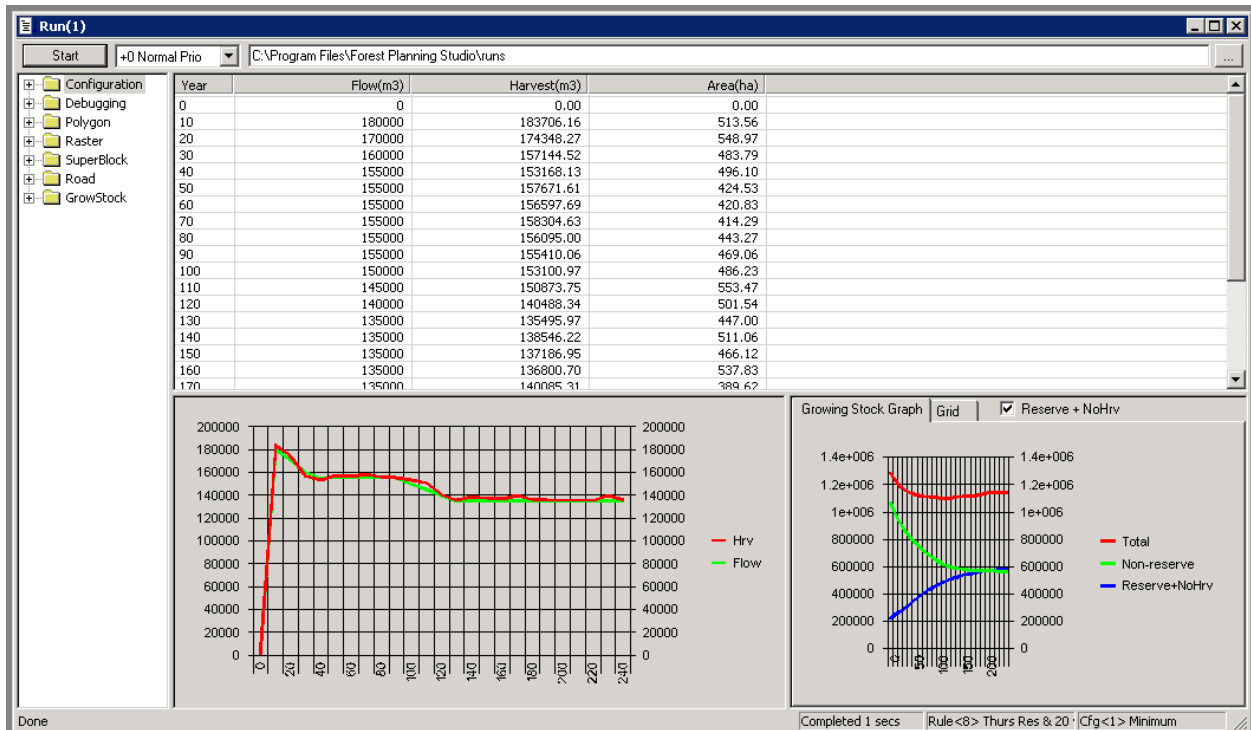

Figure 35: Flows to remove the "saw-tooth" caused by adjacency constraint.
- 4.2.1 Modify the *Flows* in the *Ruleset RSV+Adjacency* to match those in figure 35.